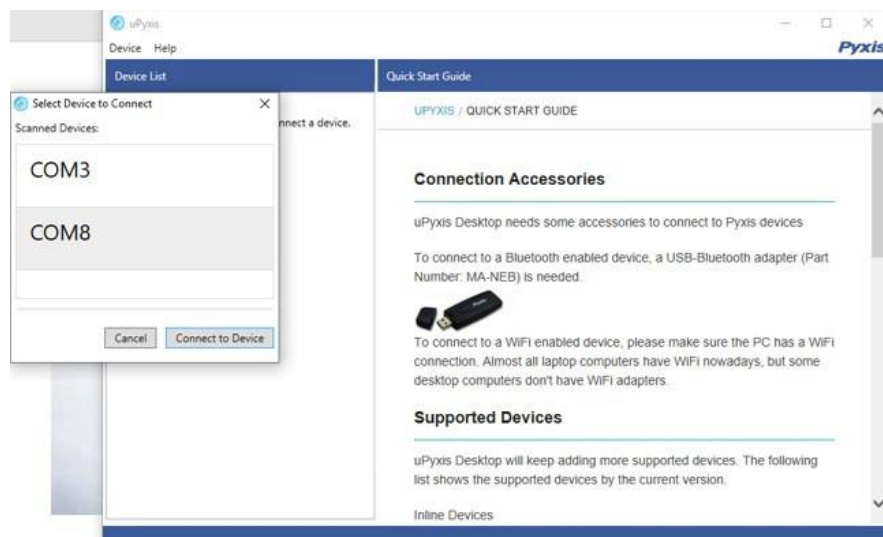

Figure 14 - Select a Comm port
- 7) Select the Comm Port to make a connection. Normally only one Comm port is identified by uPyxis (*Figure 14*). If more than one Comm port listed in the selection dropdown, you may try to select each one to see if a connection can be made. Alternatively, you may use the Windows Device Manager to identify the Comm Port that the Pyxis USB adapter is using.